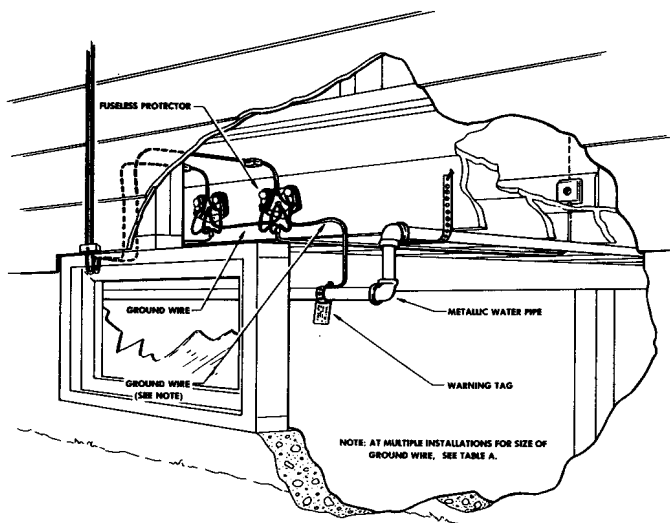

FIGURE 2. Ground Wire Run—Fuseless Protector
1.08 To provide a direct connection to the grounding medium, use a 72A bracket and a 123 type protector whenever possible. See CTSP 475-500-405. If a ground wire is necessary, the run should be short, straight, and continuous. See Figure 2.